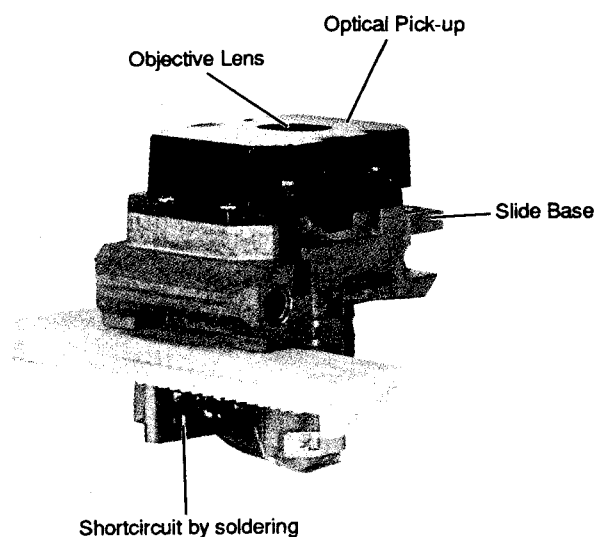

Figure 20 <20図>
- ① Perform repair with ground ring on the hands and a conductive gum mat.
- ② Grasp the slide base when handling.
- ③ When removing the pick-up arm shortcircuit by soldering as shown in the Figure 20 below and then remove the connector.
- ④ When mounting the pick-up arm, after inserting the connector, remove the soldered short-circuiting.